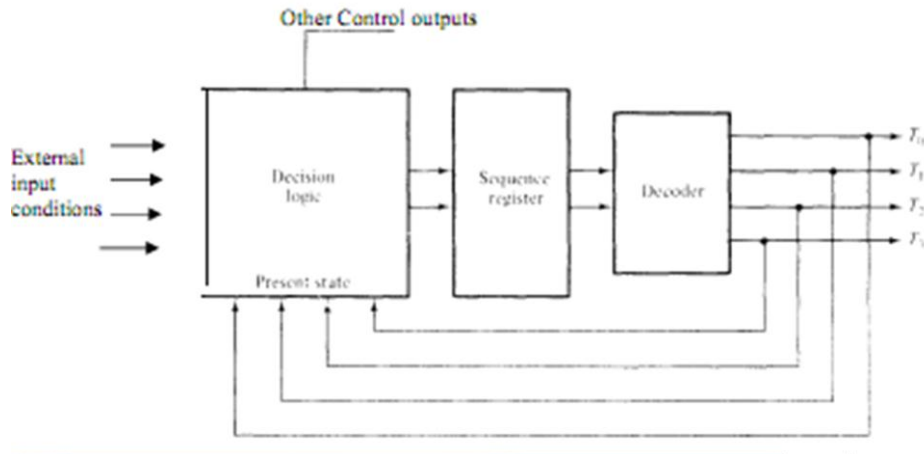

Figure 5.13 Control logic with sequence register and decoder
- Figure 5.13 shows the configuration of a four-state sequential control logic.